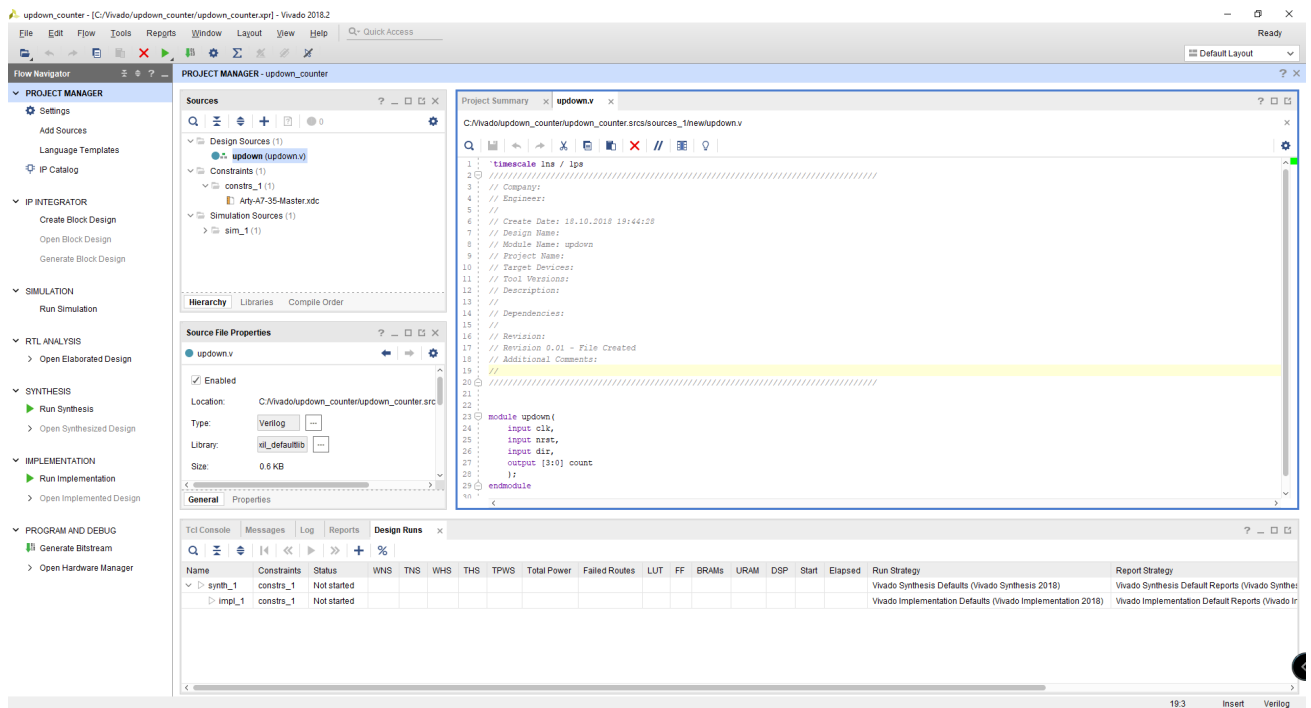

Figure 16: Source file added
- You will be prompted back to the "Project Manager" window. Notice that the created source file is listed under the "Design Sources" in the "Project Manager" window (see Fig. 16).